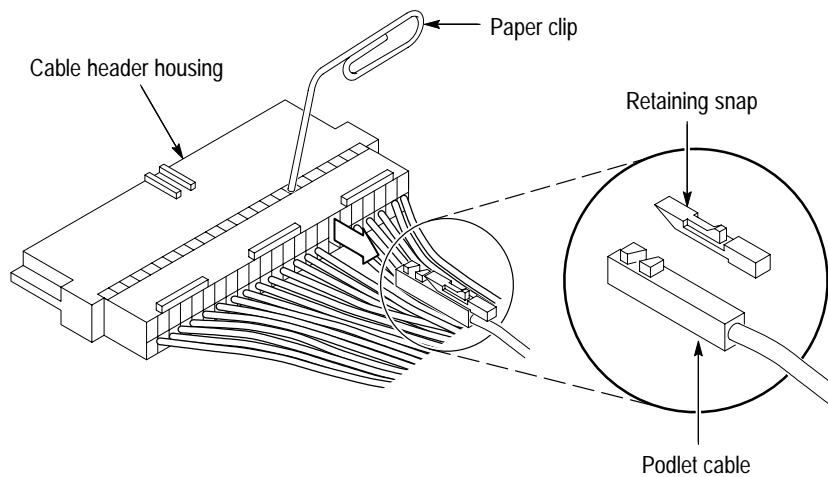

Figure 11: Removing the faulty channel from the probe cable header housing
7. Refer to Figure 11 and use a small pointed tool, such as a straightened paper clip or a mechanical pencil, to release the faulty cable from the cable header housing. Discard the small plastic retaining snap.